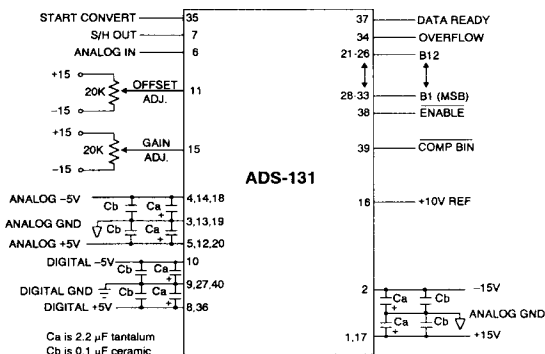

Figure 2. Typical ADS-131 Connections
1. Connect the converter per Figure 2.